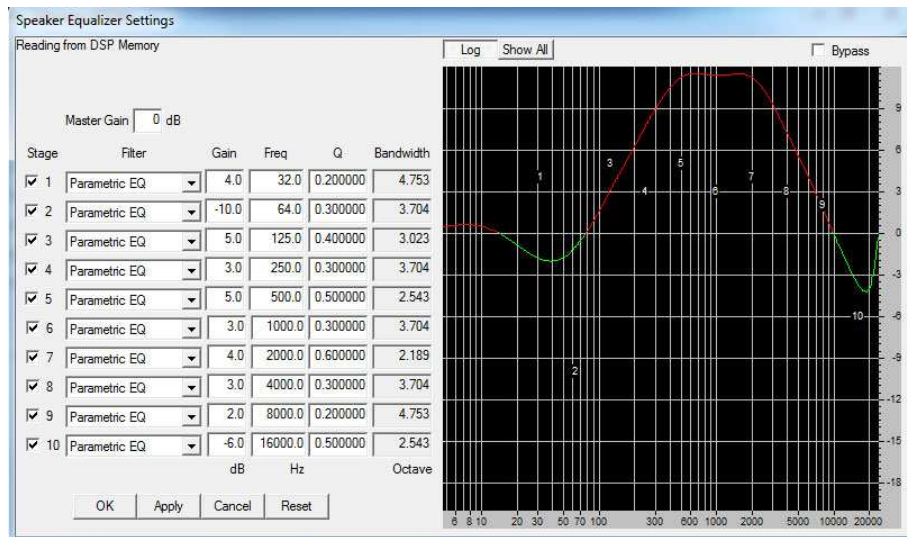

Figure 15.3: Configurable EQ GUI with Drag Points
- Manufacturer configurable speaker EQ: Made up of 1 bank of 0 to 10 stages. Contains an easy to use GUI, with drag points, see Figure 15.3.